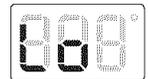

Fig. 2
3. Press -lo to choose the Lo option -Fig. 2-